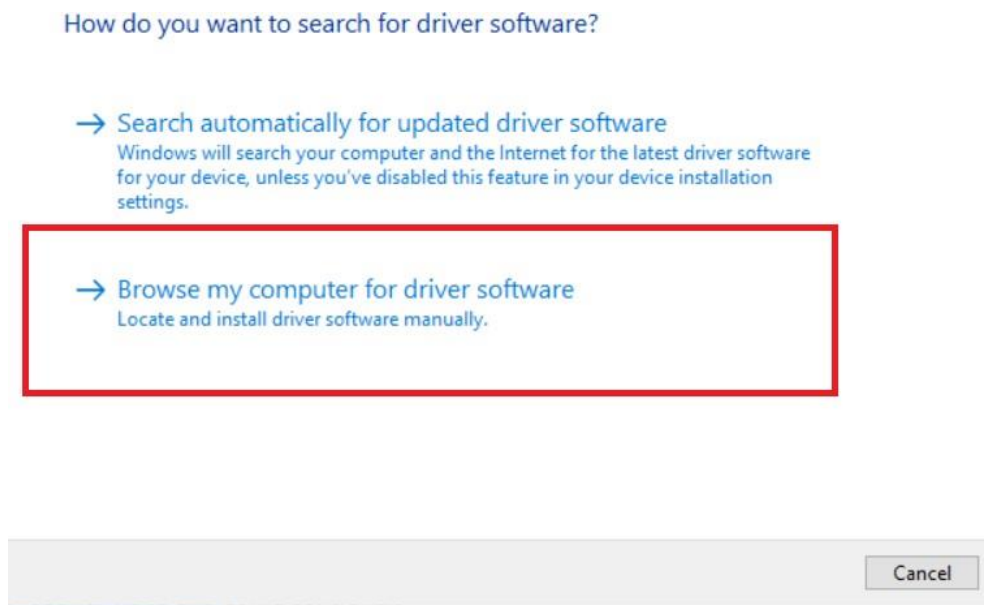

Figure 24: Selecting to Browse for Driver Software Directory
- ❑ Navigate to the path shown in Figure 24. This should be the path where you have installed Quartus on your computer.